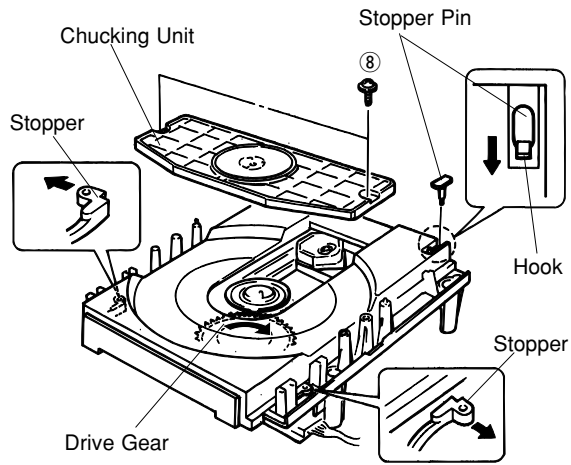

Fig. 7
- Remove 2 screws (⑧) and then remove the Chucking Unit in Fig. 7.
- Remove 1 hook and then remove the Stopper Pin in Fig. 7.
- Rotate the Drive Gear and then open the Tray Unit in Fig. 7.
- Detach the Stoppers on both sides and then pull out the Tray in Fig. 7.